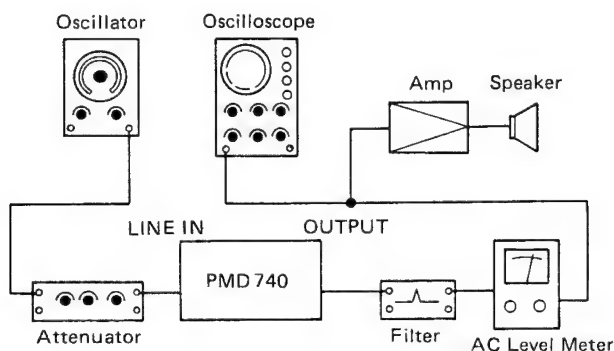

Fig. 10-13 Erasing Ratio Measurement
- 1) Connect test equipments as shown in Fig. 10-13 and adjust the controls and switches as mentioned under the steps 1 and 2 of "10-9 RECORD LEVEL".